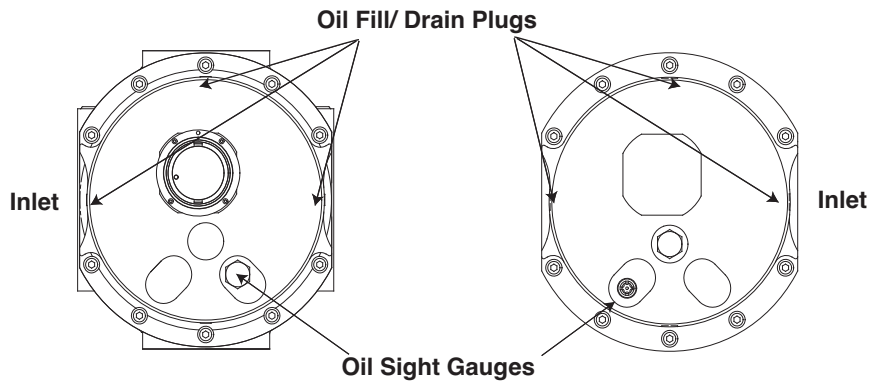

Figure 15 - Oil fill/drain plugs and oil level sight gauge locations.
- A sufficient amount of oil is shipped with each new meter to fill the meter body reservoirs in either Top or Side Inlet configuration. Slowly add oil to the meter reservoirs until the oil level comes up to the center of the oil gauge (sight glass) as shown in *Figure 14*. Refer to *Figure 15* for oil fill/drain plugs and sight glass locations. **DO NOT OVERFILL THE RESERVOIRS.**